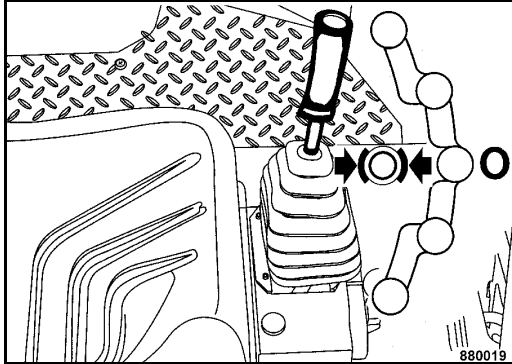

Fig. 66
- Shift the travel lever (Fig. 66) slowly to "0"-position.